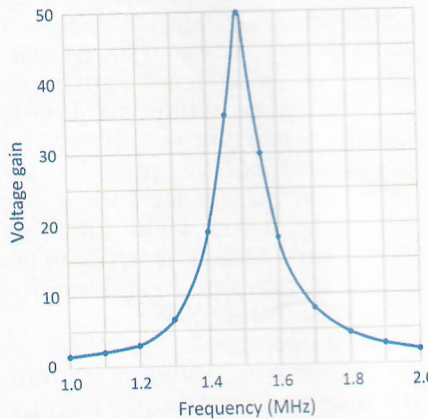

Fig.11.25: the frequency response of the high-gain RF preamplifier when tuned to 1.5MHz.
1.9MHz. Fig.11.25 shows the frequency response of the unit when tuned to 1.5MHz at the upper end of the MW band (a voltage gain of 50 is equivalent to a gain of 34dB).
From Fig.11.25, the measured bandwidth is approximately 80kHz.